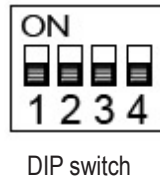

fig. 4
6. **fig. 4:** Motion sensor setting via dip switch. Settings see page 10 +11.